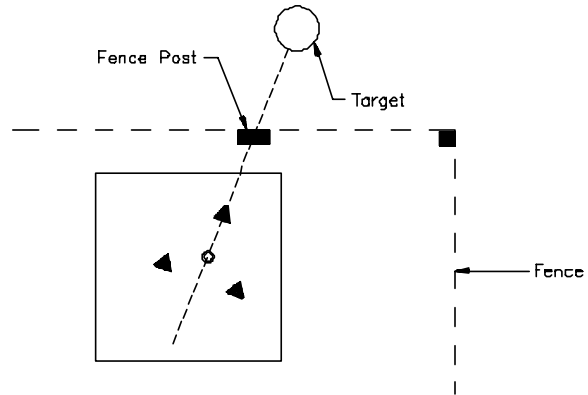

Figure 3.7
3. **Do not** align the ceilometer so that a post is directly in the line of sight between the target and the ceilometer, as shown in Figure 3.7.